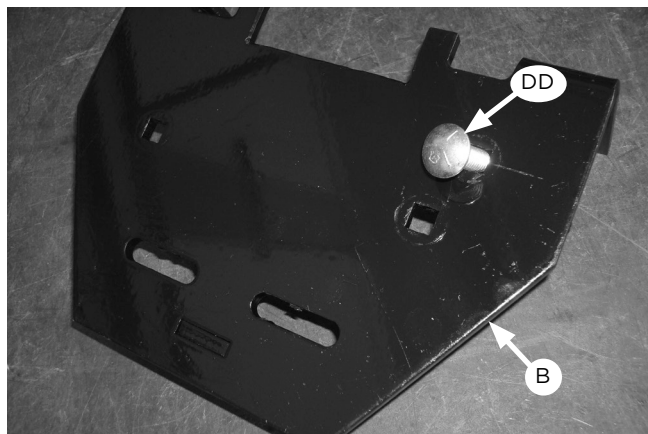
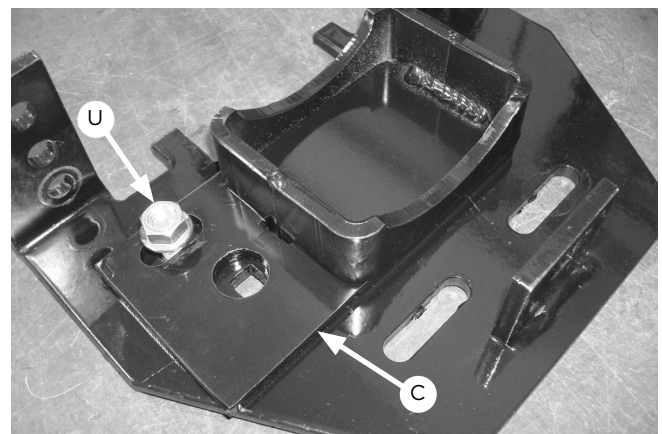

Fig. 9
Fig. 10
4. Insert a 3/8"-16 X 1" carriage bolt (DD) through the top of the lower bracket (B), as shown in Fig. 9. Flip the assembly over and set the lower bracket cup (C) onto the lower bracket and over the carriage bolt (Fig. 10). Cap with 3/8"-16 serrated flange lock nut (U) and snug the nut only. Leave loose enough for the bracket to move freely in the slot.